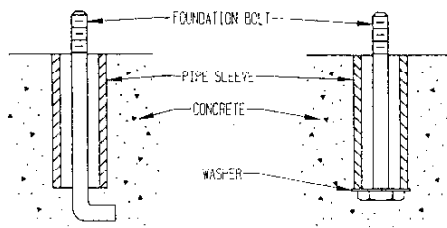

Fig. 1 — Anchor Bolts
The foundation serves to carry the pump weight and to absorb vibration. Normally, the foundation is made of concrete block, preferably tied in with the floor or ground. Make the foundation block about 4" longer and 4" wider than the base of the frame. Height of the block may vary from 2/3 to 1 times the *width* of the foundation. When foundation is poured, provide a hole near each of the four (4) corners. To simplify installation and maintenance use lead Anchors. Place the front Anchor about 2" from the edge of the foundation to clear overhanging casings (Fig. 1).